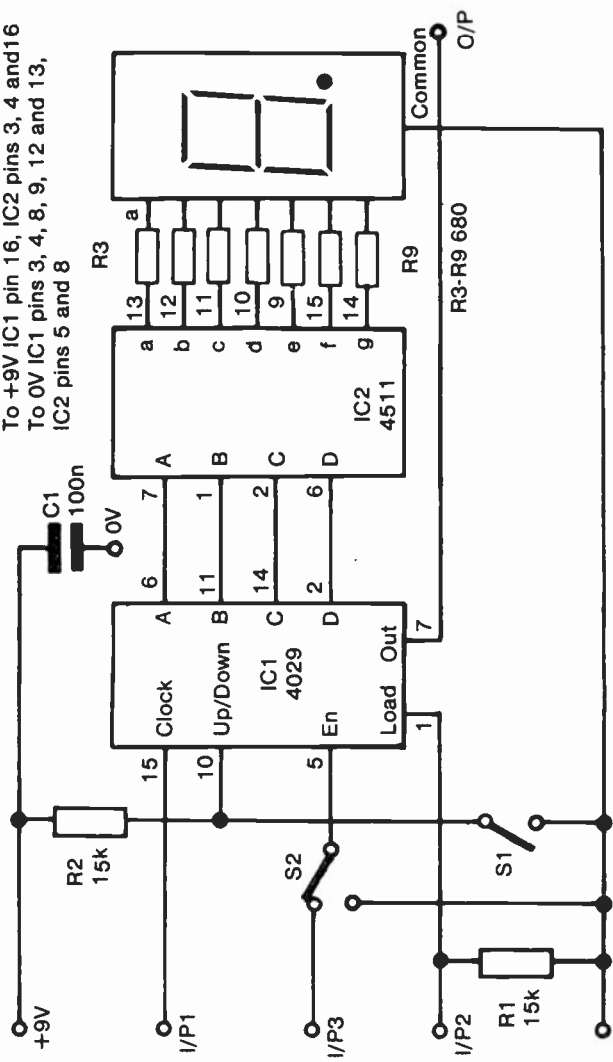

Fig. 78 Circuit diagram of Module 48.
*Circuit diagram:* see Figure 78.